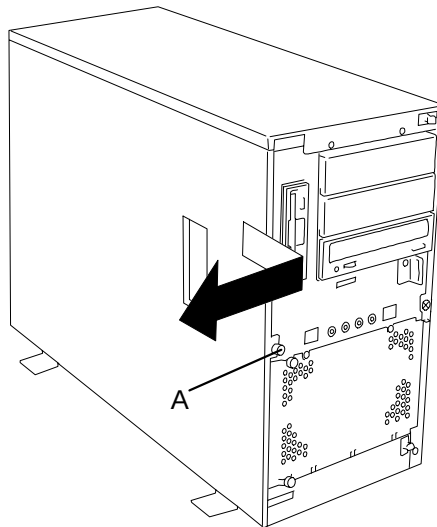

Figure 3. Removing the Left Side Panel
1. The left side panel is secured to the chassis with one thumbscrew (Figure 3, A). Remove the screw securing the side panel. Save the screw for reattaching the side panel.
3. Pull the side panel out and away from the chassis (Figure 3).
4. Replace the side panel retaining screw (see Figure 3, A).